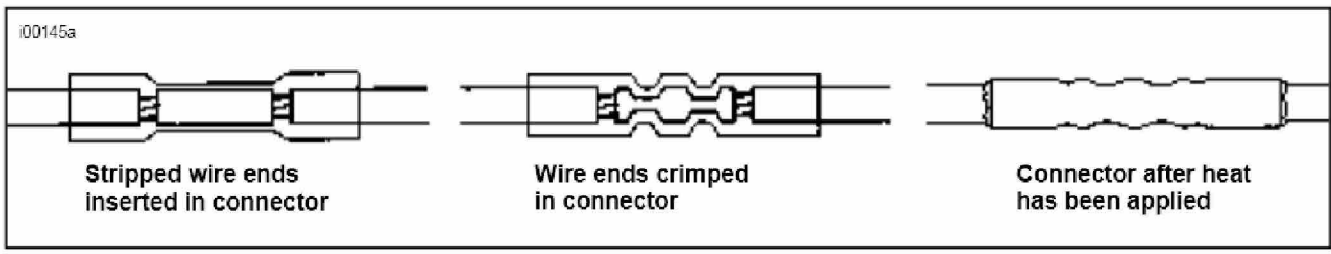

Figure 4. Installing Sealed Butt Splice
- b. See Figure 4. Insert wires prepared in step a. into opposite ends of a butt splice connector.
- d. See Figure 4. Using the UltraTorch UT-100 (H-D 39969), Robinair Heat Gun (H-D 25070) with Heatshrink Attachment (H-D 41183), or other suitable radiant heating device, heat the crimped splice to encapsulate the butt splice connection. Apply heat from the center of the crimp out to each end until the meltable sealant exudes out of both ends of the connector.